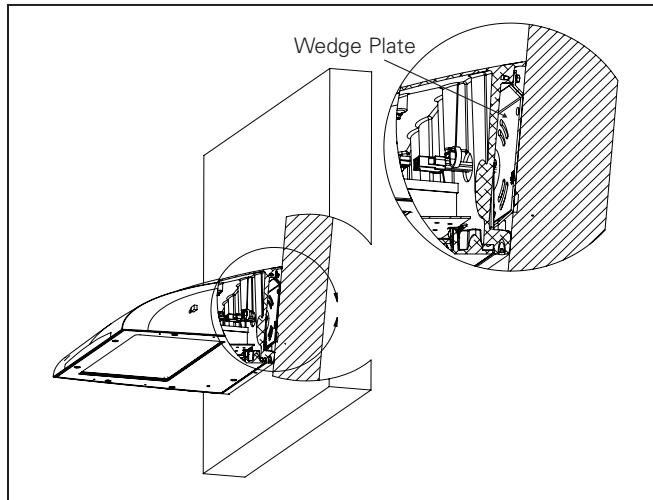

Figure 5.
6. Tighten the two set screws on the fixture to 20 in-lbs. (Figure 5).
5. Hang the top housing onto the wedge plate and tighten the two set screws to 20 in-lbs (Figure 5).